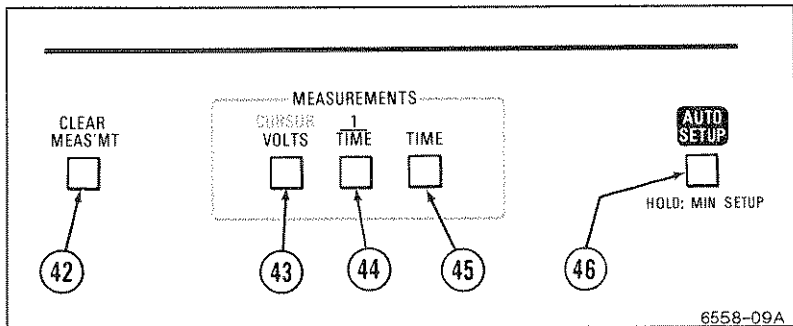

Figure 2-7. Measurement controls.
Refer to Figure 2-7 for location of items 42 through 46.